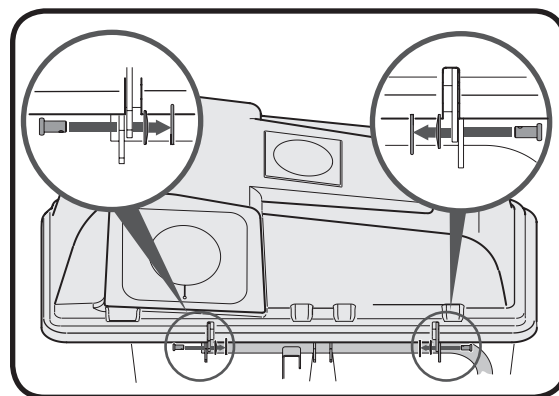

Figure 20
5. Reinsert the clevis pins previously removed through the hinge on the support tube assembly and then through the grass bag cover. See Figure 20.
6. Secure with belleville washer and hairpin clip with the crown side of the washer going against the hairpin clip. See inset images in Figure 20.
NOTE: *Insert the clevis pins from the outside in as shown in the inset images of Figure 20.*
Insert the clevis pins from the outside in as shown in the inset images of Figure 20.